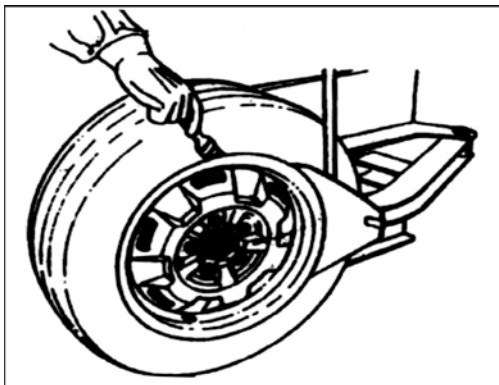

FIG 19
b) Place the tire between then bead breaking blade and tire pressing runner clog (FIG19).